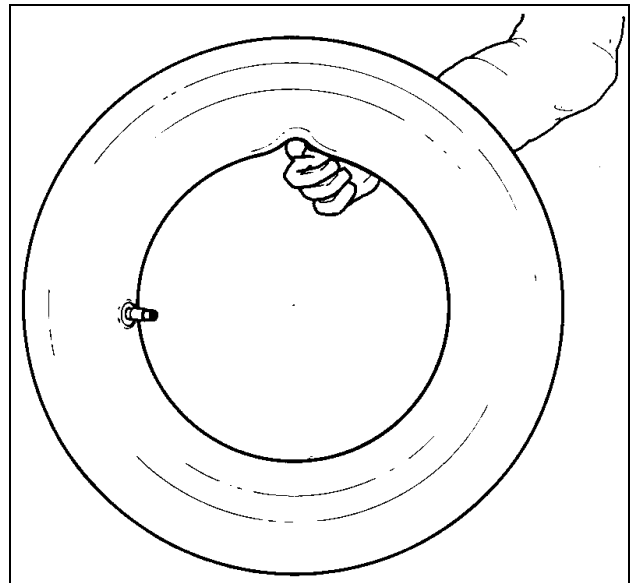

Fig.28
C. Inflate the tube slightly: if held with the indexfinger it should bend a little (Fig.28).